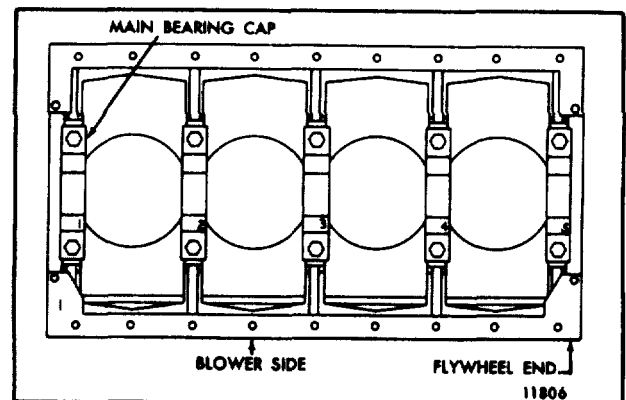

Fig. 19. Cylinder Block Markings
reinstalled in their original positions to maintain the main bearing bore alignment. The number of the front main bearing cap is stamped on the face of the oil pan mounting flange of the cylinder block, adjacent to its permanent location in the engine as established at the time of manufacture. The No. 1 main bearing cap is always located at the end opposite the flywheel end of the cylinder block (Fig. 19), regardless of engine rotation or accessory arrangement. As originally manufactured, the main bearing caps are installed with the numbered side facing the blower side of the engine. Machining of the cylinder block and main bearing caps is such that the mating parts are "offset" to prevent installation of the bearing caps 180° from their correct position. However, if an engine has been converted for a new application and the cylinder and bearing numbering sequence has been reversed, the bearing caps must be reinstalled in the original positions regardless if the block and bearing caps have or have not been renumbered.
2. If a new service replacement block is used, stamp the engine serial number and model number on the pad located in the upper right-hand corner on the blower side of the block. Also stamp the position numbers on the main bearing caps (Fig. 19) and the position of the No. 1 bearing on the oil pan mounting flange of the block.